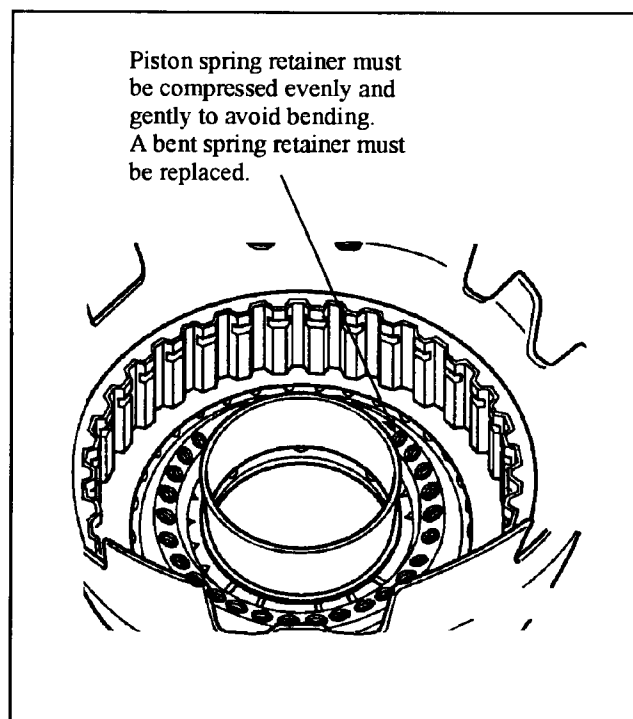

Figure 76
18. Place the K2 drum in a suitable press and compress the spring retainer for the piston (See Figure 76). Use caution when compressing the spring retainer it is fragile and may be bent beyond use if not compressed evenly.